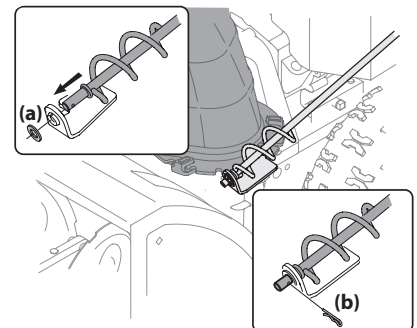

Figure 2-15
1. Remove plastic cap (if present), flat washer (a) and hairpin clip (b) from end of chute directional control assembly. See Figure 2-15.